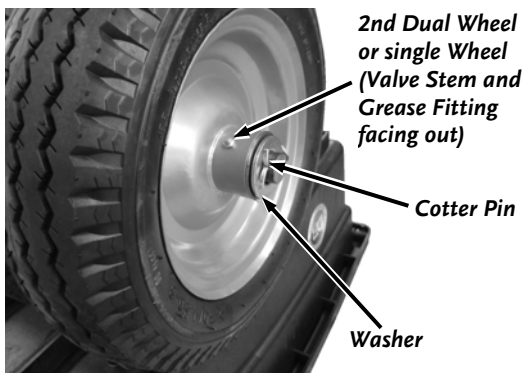

Figure 11
5. **For all Machines:** Install a Wheel (second wheel for Dual Wheel models) with the Valve Stem facing out and place a Washer against the Wheel (**Figure 11**).